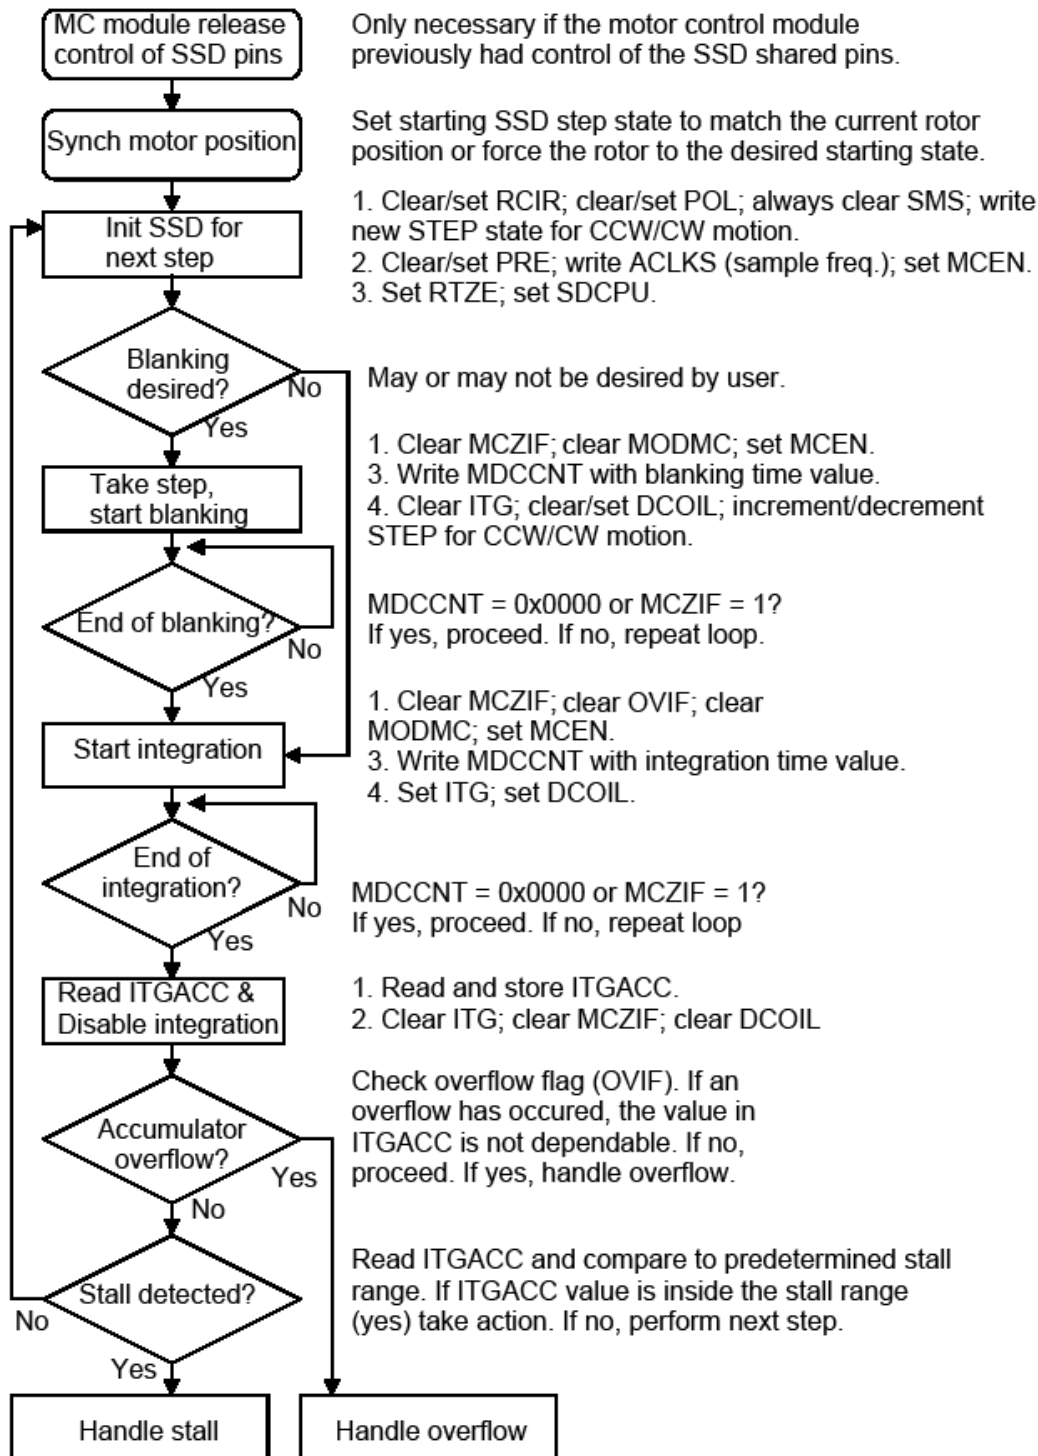
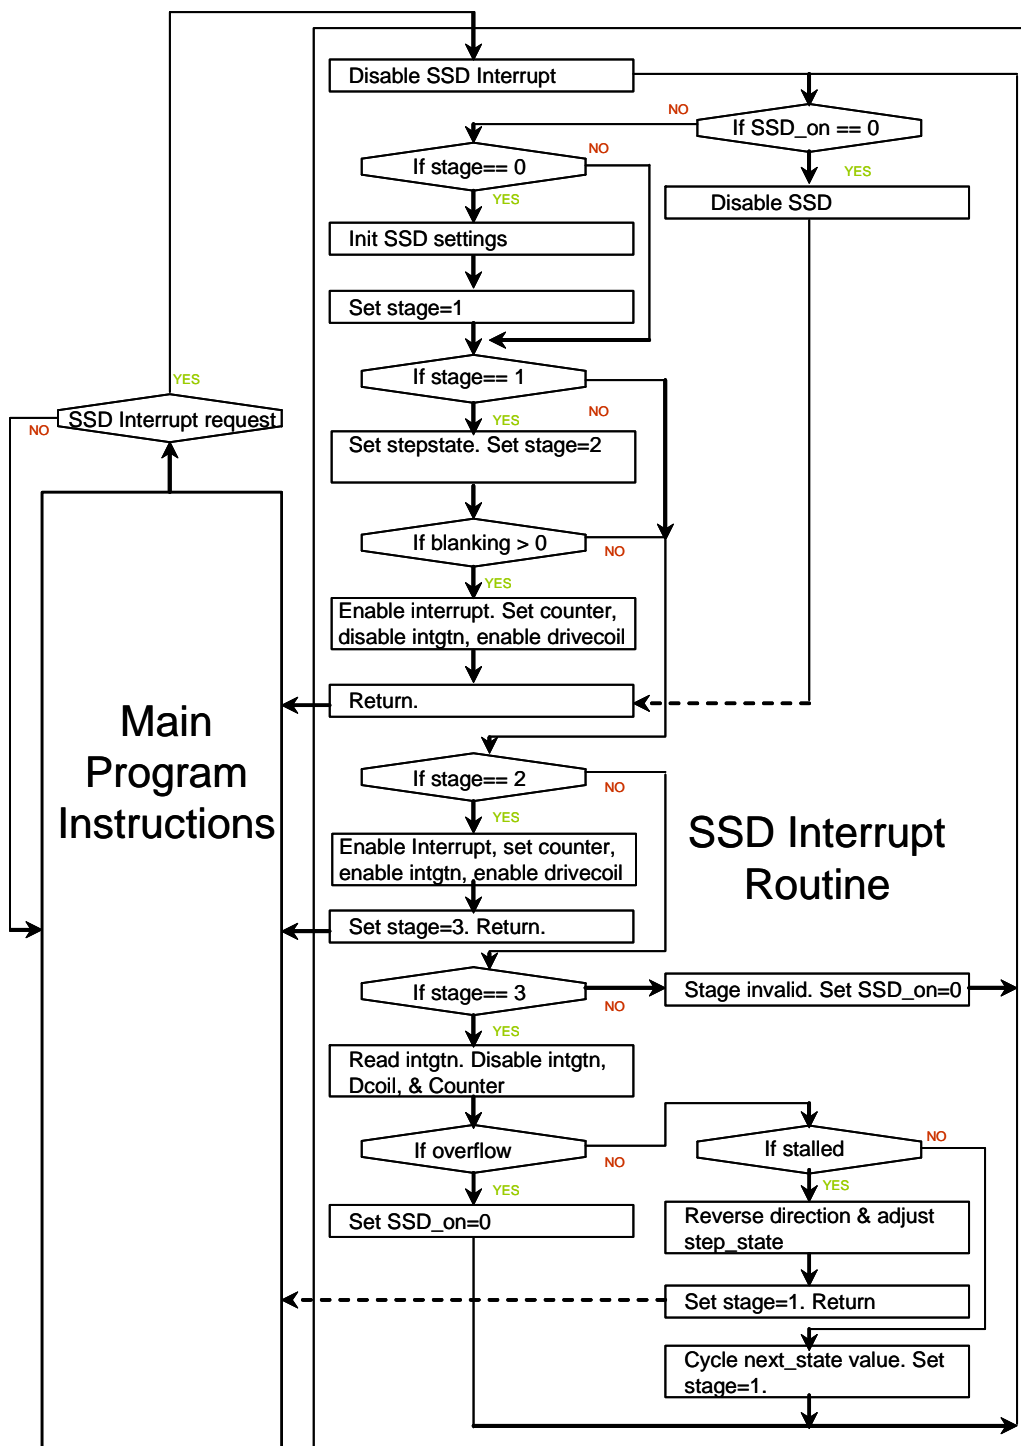

Figure 16. Integration and Stall Detection Flowchart
Figure 17. SSD CPU Interrupt Flow
The SSD module does not have a specific bit to enable or disable offset cancellation. By default, offset cancellation is active as long as the recommended programming sequence for enabling integration is achieved. The SSD block guide or chapter has a flowchart with a general recommended programming sequence. Figure 16 shows a more detailed flowchart. Other sequences are possible but not recommended.
Figure 16 and Figure 17 show how the flow of execution might occur in a simple system. Figure 16 illustrates an example flow where no interrupts are used. In this case, many CPU cycles may be wasted in support of the SSD module. This flow is simple, but provides less efficient use of the CPU's time. Refer to Section 15, "C Programming Example," for example code following the general flow of Figure 16. The code can also be found in AN3330SW on the Freescale website.
Figure 17 shows how CPU interrupts are used to drive the SSD module. This method of using interrupts to control the SSD module is more involved, but allows the service routine to entirely manage the SSD module. This provides more efficient use of CPU cycles and allow multiple interrupts to control multiple SSD modules. During a single step with integration, there are several times when the SSD module needs to be serviced. Because of this, the SSD service routine instructions are partitioned into stages. Each time the SSD interrupt is requested, the routine proceeds to the appropriate stage and performs the associated instructions. When complete, the routine returns control of the CPU to the general program. The code can also be found in AN3330SW.
This program was written in C for Freescale's MC9S12HZ256 microcontroller and compiled with the CodeWarrior™ for HCS12(X) compiler. There is also a version for the MC9S12XHZ512. In sections that follow the flowchart provided in Figure 16, the comments are labeled to match. All relevant code is contained in one file, main.c, shown below. CodeWarrior projects of this program and for an interrupt version for the MC9S12HZ256 and MC9S12XHZ512 may be downloaded from Freescale's website. The software is contained in the AN3330SW and can easily be migrated to be used on the MC9S12XHY microcontroller.